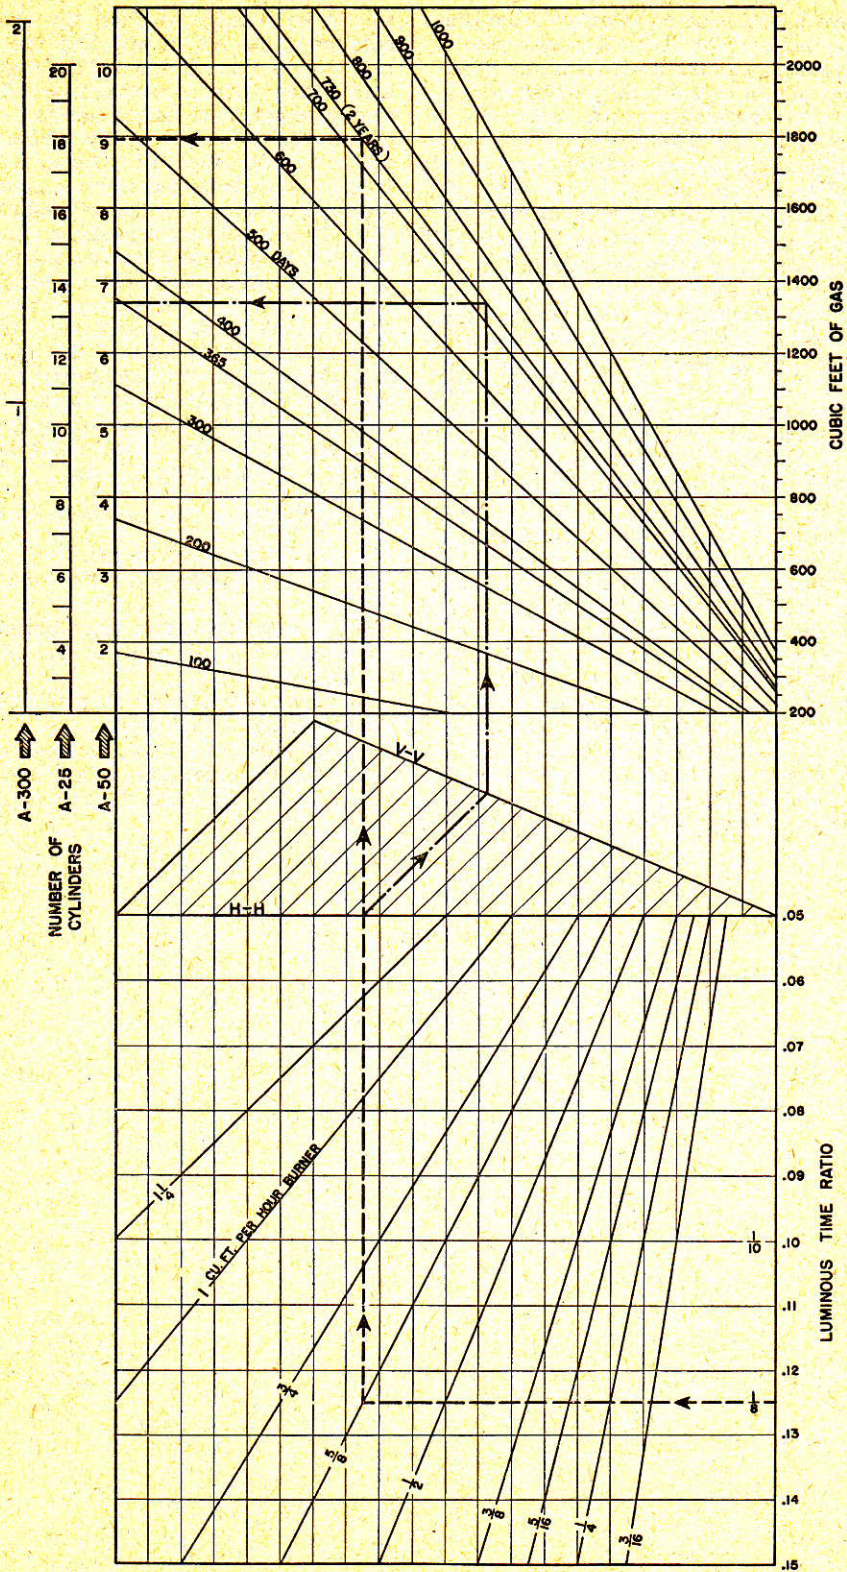

FIGURE 20-82.—Acetylene gas consumption chart.
A. Since there is a distinct relationship between change of temperature, the difference in the known atmospheric temperature, and the internal temperature of a cylinder (which can only be estimated unless the ambient temperature has remained constant for a long period), and the pressure of the acetylene gas, the practice of "gaging" an acetylene installation to determine the remaining service period is not always reliable. A check of pressure will give a general indication of the need for recharging, or will show up an abnormal condition such as a leak, etc. If the tables (figs. 20-2, 20-2A or 20-2B) or the nomograms (figs. 20-82 and 20-83) are used in computations, it must be remembered that the temperature involved is the internal temperature of the mass within the cylinder, and accurate estimation thereof must be attempted. (Although impracticable in the field, the only reliable manner in which the quantity of gas remaining in a cylinder can be determined is by checking its weight.)
A. The acetylene gas consumption chart (figs. 20-82 and 20-83) can be used either to determine how many acetylene cylinders to install for any given installation or to calculate the service time remaining in a partially discharged installation. The chart is based on the formula given in paragraph 20-18-5 (A). (See note below.) Two examples are given below, the first of which shows how to select the number of cylinders to give a specific servicing time and the second how to calculate the servicing time remaining in an existing installation.
NOTE: The charts (figs. 20-82 and 20-83) were computed for the value of 180 cubic feet capacity formerly used for A-50 cylinders and 88 cubic feet for the A-25. The values for A-300 cylinders remain the same. It is suggested that the charts be used "as is" without attempt to interpolate for the presently accepted values of 200 cubic feet for A-50 and 100 cubic feet for A-25 cylinders. Thus any error will always be on the side of caution.
Solution: Use the left-hand half of the chart (fig. 20-82). Compute the luminous time ratio as defined in paragraph 20-18-5. This is found to be $\frac{1}{8}$. Proceed on the chart as follows: